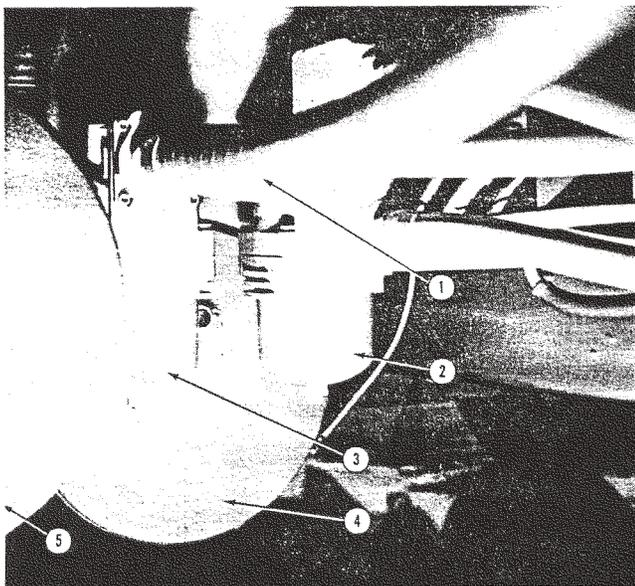

Figure 23
3. Check hydraulic system suction strainer and return line filter for contamination and replace if necessary. (Figure 23).